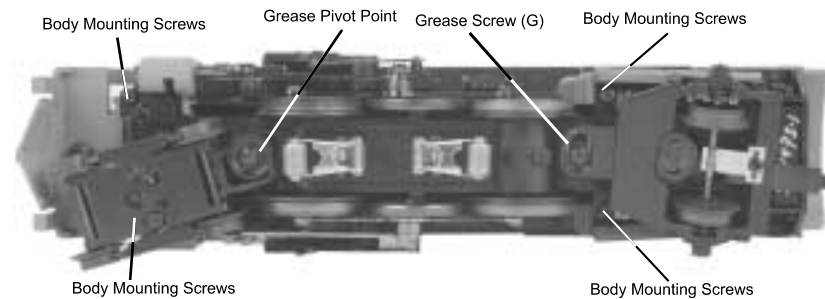

Figure 6. Removing the Body and Lubricating the Grease Points
If you experience poor or no smoke output when the smoke unit is on and has fluid, check the wick to see if it has become hard, blackened, and unabsorbent around the heating element. To remove the smoke unit you will first have to remove the boiler shell (by removing the body mounting screws shown in Fig. 6 on pg. 13). To do this, follow these instructions:
You should also grease the leading and trailing locomotive truck tongues to enhance their ability to slide on the chassis. Follow the grease points shown on Fig. 6.
1. To replace the headlight in this model you will need to follow the disassembly instructions for greasing the engine in figure 6 on pg. 13. Once the boiler has been removed you can access the headlight(see figure 8).